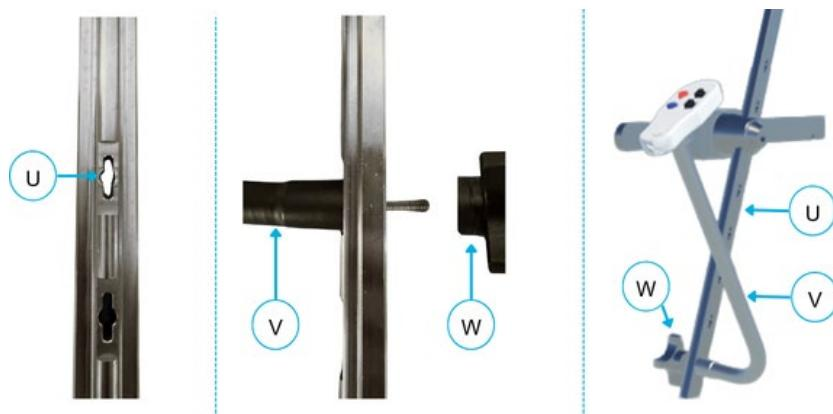

Figure 10-21: Controller Connection to Stabilizer Mount
22. Align the notches on the end of the Controller Arm (V) with the 'keyhole' slots (U) on the side of the Vertical (long) Stabilizer Mount (**Figure 10-21**).